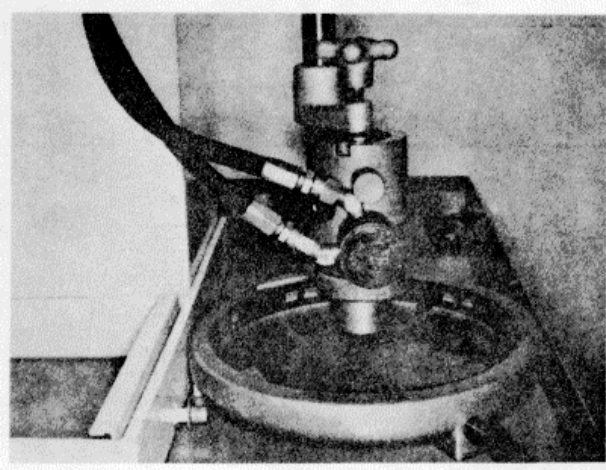

Figure 16H-47. PT (Type D) Injector in ST-668
5. Check Table 16H-5 for the number of spray holes (9) and place the applicable target ring in the base of ST-668. Target rings are marked on the "handle" (6 and 9 holes or 5, 7 and 8 holes).
6. Insert the injector in Service Tool ST-1254 Adapter, Figure 16H-47.